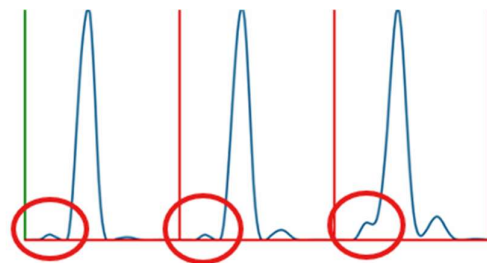

Figure 3 Contaminated peaks
- Confirm that the peak shapes are gaussian and symmetrical. The bumps after each peak is normal. If the peaks have bumps before the peak like in Figure 3, it can indicate that the source should be cleaned.